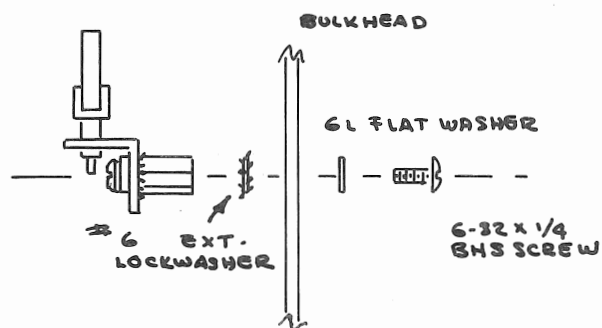

Fig. 1
- () 3. Mount the silicon rectifier assembly (from kit) in the hole vacated by the selenium rectifier (see Fig. 1). Use the hardware from the kit.
- () 2. Replace SR750 on its mounting bracket with the assembly (from kit), using the hole vacated by the selenium rectifier (see Fig. 1). Use the hardware from the kit.